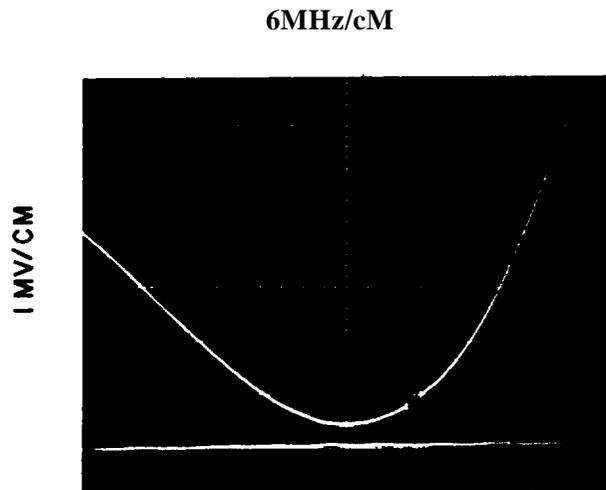

Figure 4-13. Typical Response, 500-475 MHz VSWR
- (20) Reset the tuner shaft fully cw and readjust C37, C50, C51 and C52 to compensate for C1A and C1B adjustments.
- (21) Repeat steps (18) and (19) until the interaction is minimized and the response appears as shown in Figure 4-13 throughout the 25 MHz range.